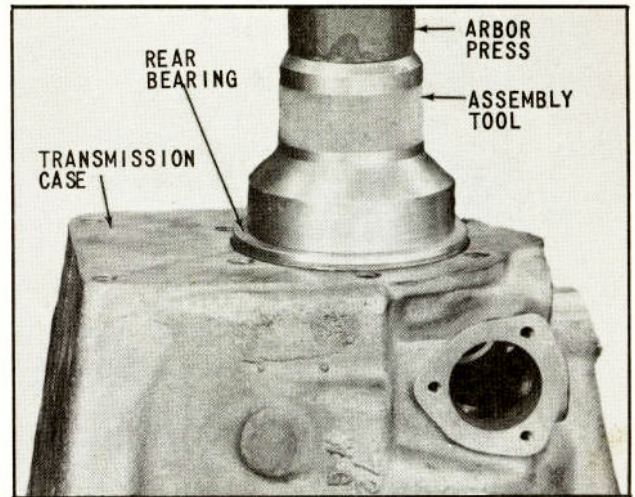

Fig. 24 Rear Bearing Pressed in Place
12. Using an assembly tool designed to press evenly on the bearing outer and inner races, press bearing down until seated against shaft or case shoulder, (Fig. 24).